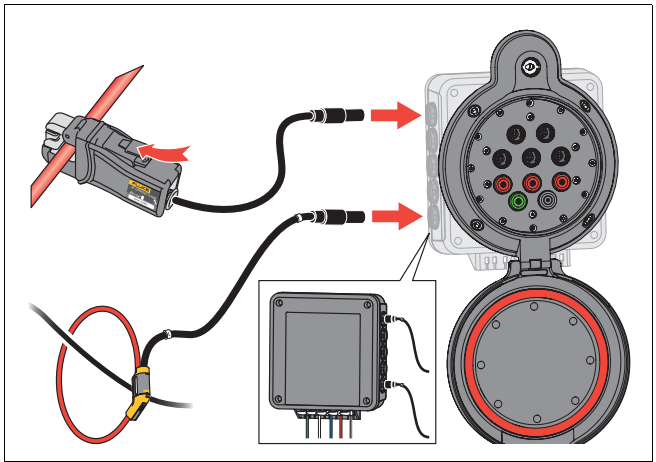

Figure 5. Current Connections
1. Apply the iFlex or clamp around the phase wire to measure. See Figure 5. Make sure that the arrow on the current sensor matches the current flow direction.